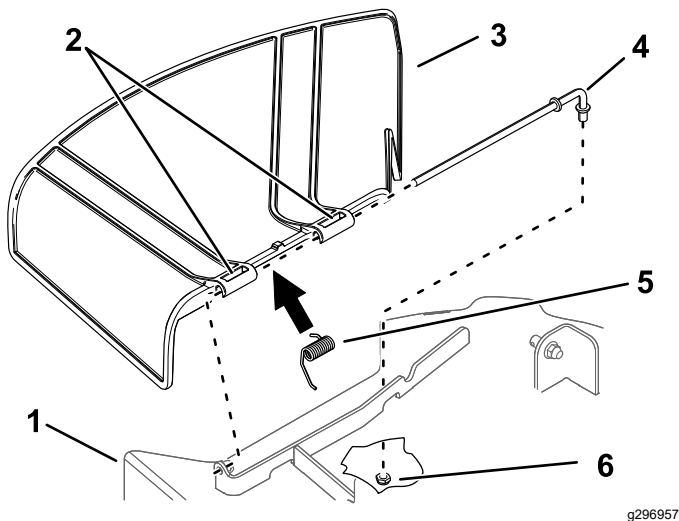

Figure 66
1. Remove the nut (3/8 inch) from the rod under the mower (Figure 66).
2. Slide the rod out of the deck bracket, spring, and grass deflector (Figure 66).
4. Install the new grass deflector (Figure 66).
7. Slide the rod through the second grass-deflector pivot (Figure 66).
9. Secure the rear end of the rod into the mower with a nut (3/8 inch) as shown in Figure 66.